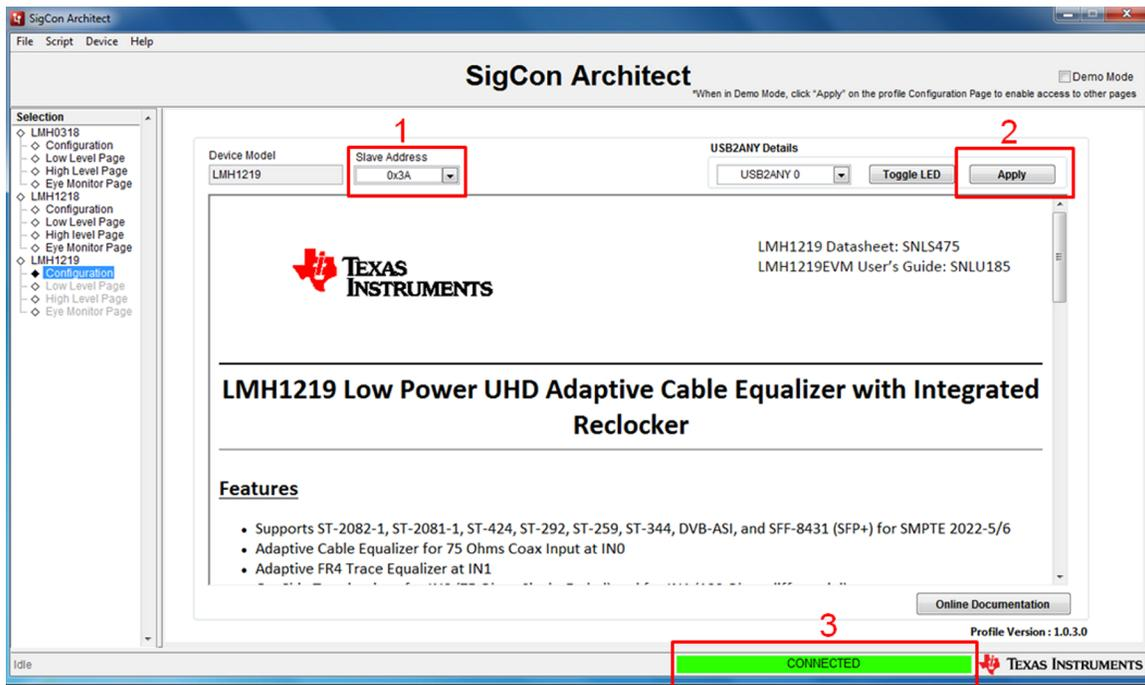
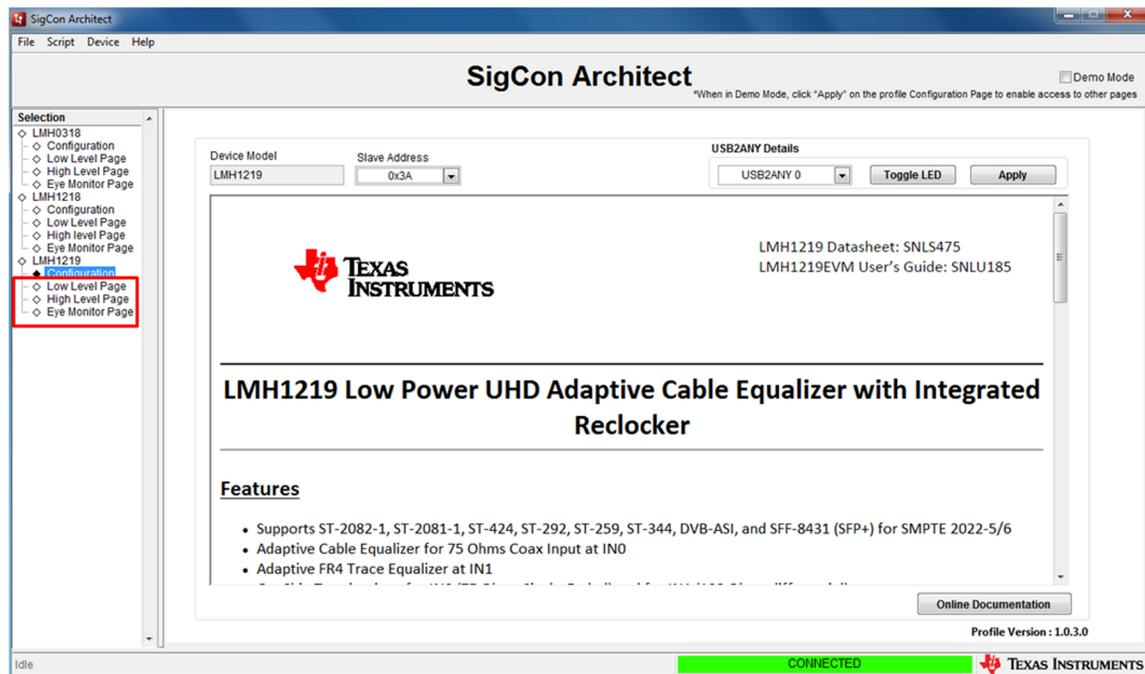

Figure 5. LMH1219 Configuration
Figure 6. LMH1219 Configuration Complete
8. Repeat Step 7 for the LMH1219 device to enable communication (see Figure 5 and Figure 6).